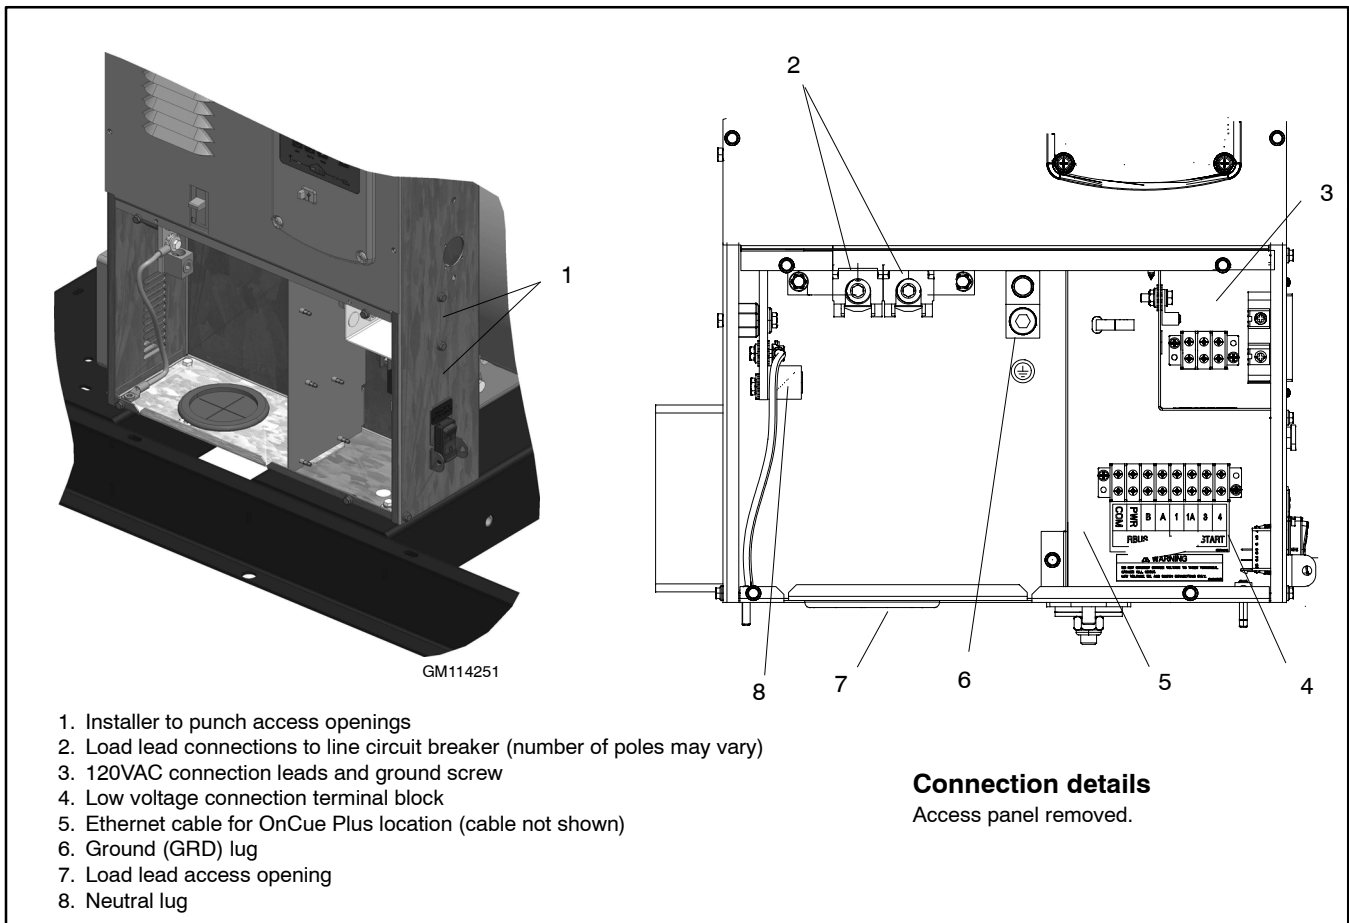

Figure 1-9 Generator Set Connections
Ground the generator set. The grounding method must comply with NEC and local codes. Connect the ground to the generator set ground lug, terminal GRD inside the junction box (see Figure 1-9). Connect the grounds for utility and low voltage connections to the ground lugs provided in the customer connection box for those specific connections (see Figure 1-9).
Connect power to the leads in the utility power connection area shown in Figure 1-9. Connect the circuit to the load side of the transfer switch so that it is backed up by the generator. See the wiring diagrams in Section 4 for connection details. See Figure 1-10 for the power requirements for the battery charger and accessories.
See Figure 1-9. Make all AC and DC customer connections inside the customer connection box. Do not remove the end panel or make connections inside the junction box. Refer to the wiring diagrams in Section 4.
1. Route the load leads into the junction box through the access opening in the bottom of the box. Connect the load leads from the line circuit breaker in the generator set junction box to the transfer switch emergency power connection points. See Figure 1-9 and Figure 1-11. Refer to the transfer switch installation manual for ATS connection instructions.
3. Cut or punch openings in the side of the connection box for the 120 VAC power supply leads and the low voltage connections. See Figure 1-9. Use separate conduit for the power leads and the low voltage leads.
1. Customer connection terminal block. See Figure 1-9 for location. Check the decal on the generator set for terminal block connections.